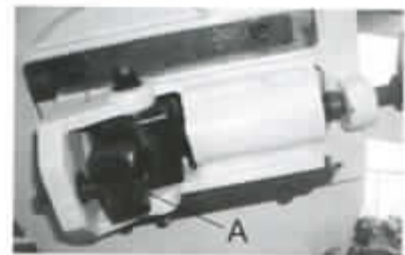

Fig.7
Make sure the blade is tensioned correctly before checking or adjusting. The blade is tracking properly when the back of the blade is just lightly touching the wheel flanges of both wheels while the machine is running. If the blade is not touching the wheel flanges tighten or loosen screw (A) Fig.7. Until the blade tracks properly.